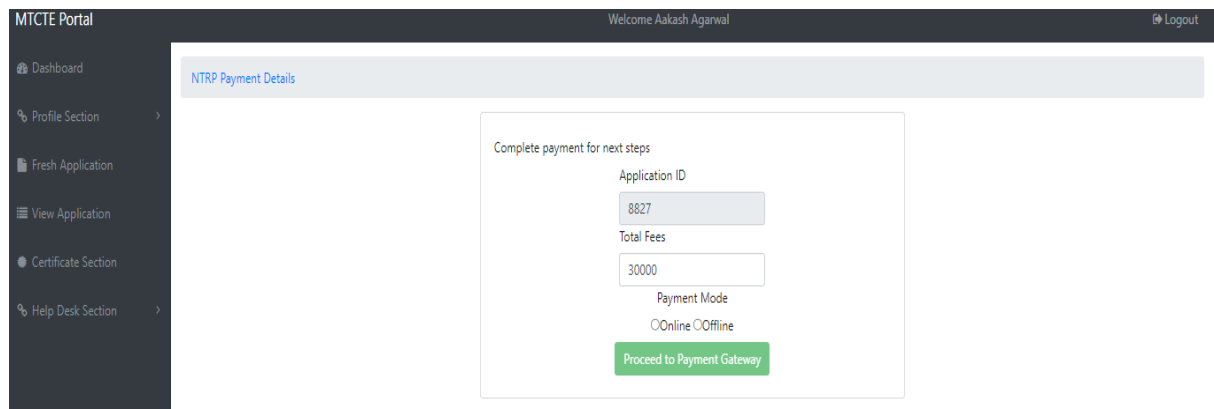

Fig. 58: Payment mode
- iv. On the next window, a new **Application ID** will be generated along with the **Total Fees**. Choose **Payment Mode** (Online/Offline) and click on **Proceed to Payment Gateway** (Fig. 58).